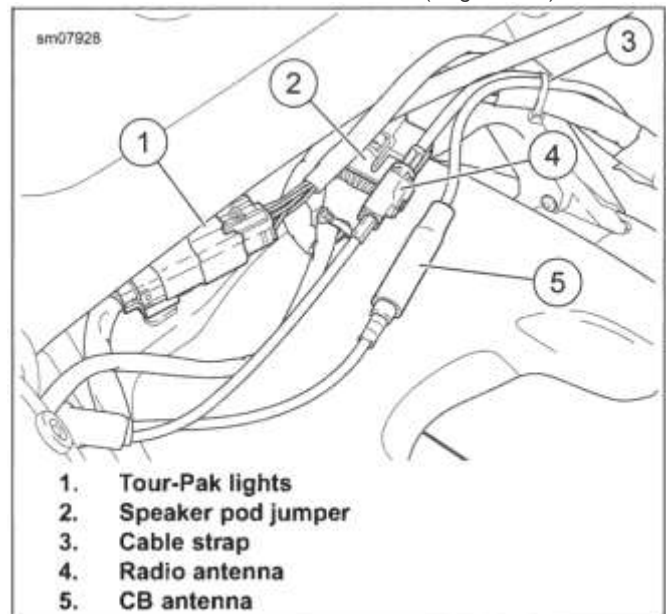

Figure 8-82. Tour-Pak Harness Connectors
2. See Figure 8-82. Separate speaker pod jumper (2) connector from main harness.
- 2. See Figure 8-82. If separated, assemble left and right harnesses to connector (7). See the electrical diagnostics manual.